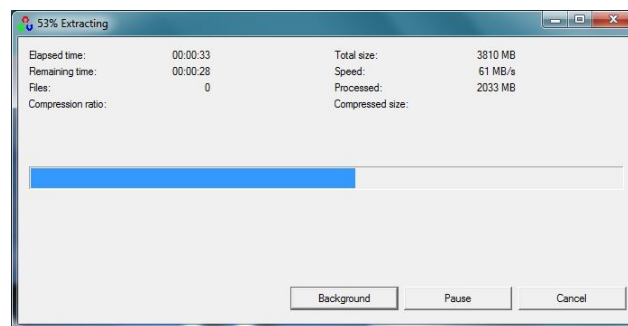

Figure 4-14. OpenCV Source Extraction
4. Wait for the OpenCV libraries and source files to install. The installation path is shown in Figure 4-14.